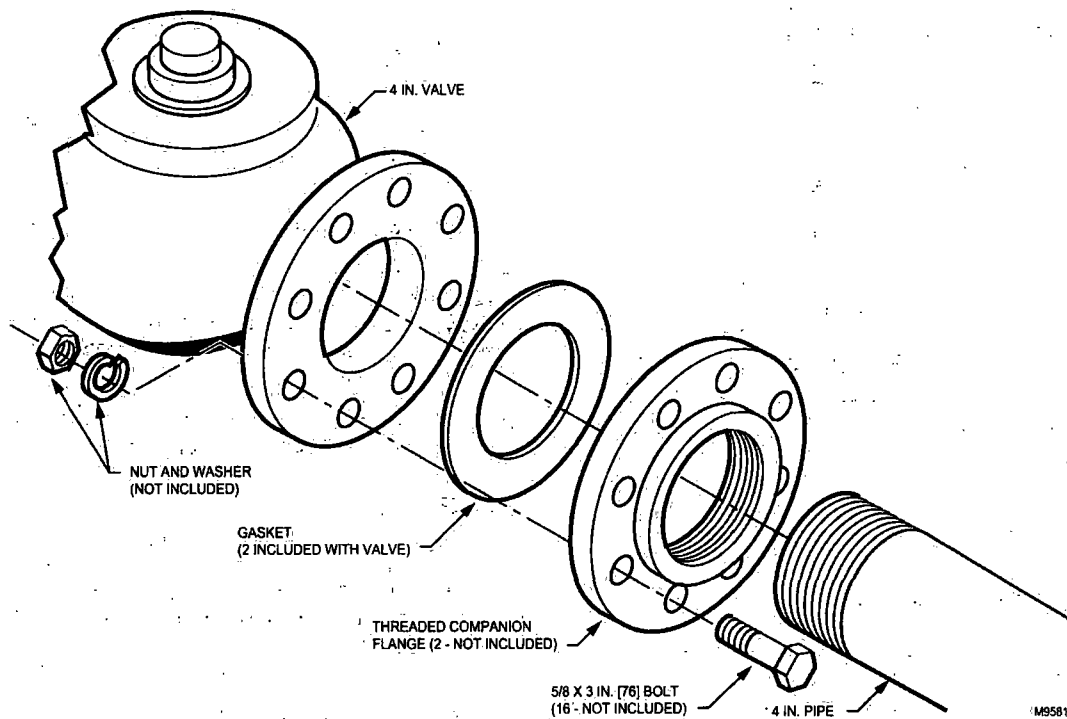

Fig. 6. Installing a 4 in. V5055 Valve.
8. Use two threaded companion flanges, two gaskets (included with valve), and 16 bolts (with washers and nuts) for mounting a 4 in. -V5055 Valve. Mount a threaded flange and gasket on each end of the valve as shown in Fig. 6. Then screw the pipes into the threaded flanges. Apply dope sparingly, and use wrenches and vises properly as shown in Fig. 4 and 5.